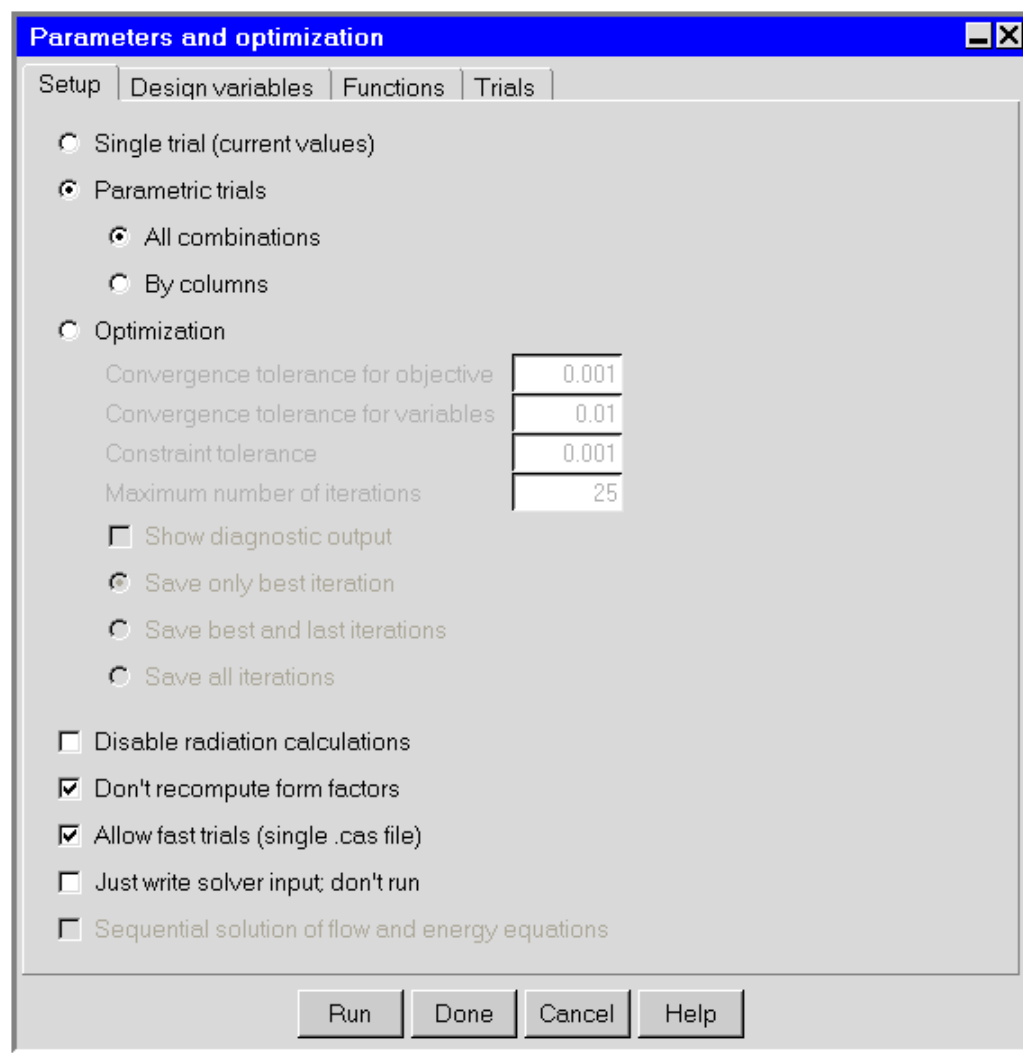

Figure 24.5.1: The Parameters and optimization Panel (Setup Tab)
You can define additional new parameters, also called design variables, or edit existing parameters using the **Parameters and optimization panel** (Figures 24.5.1, 24.5.2). To open this panel, click the  button in the **Model and solve toolbar**.
There are two ways of listing possible combinations from the list of parameters specified in the **Design variables** tab of the **Parameters and optimization** panel: listing all combinations and listing "by column". To choose one of the two options, select **Parametric trials** in the **Setup** tab of the **Parameters and optimization** panel (Figure 24.5.1).
1. Select **Single trial (current values)** in the **Setup** tab of the **Parameters and optimization** panel (Figure 24.5.1).